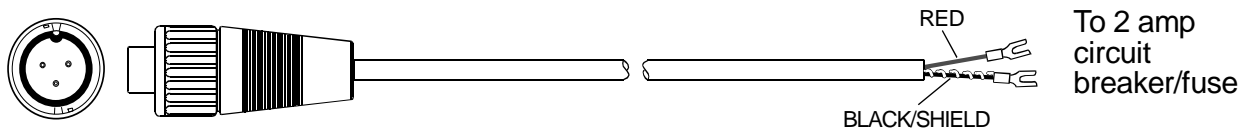

Figure 8: C98-20PW Power Cable
- q Using the wire cutters and wire strippers, prepare the end of the cable as necessary for your installation (**Figure 8**).